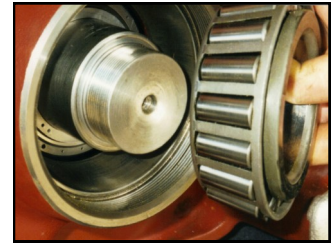

Fig 10.
3. Install the outer bearing cone onto the axle and fit the axle nut, Fig 10.